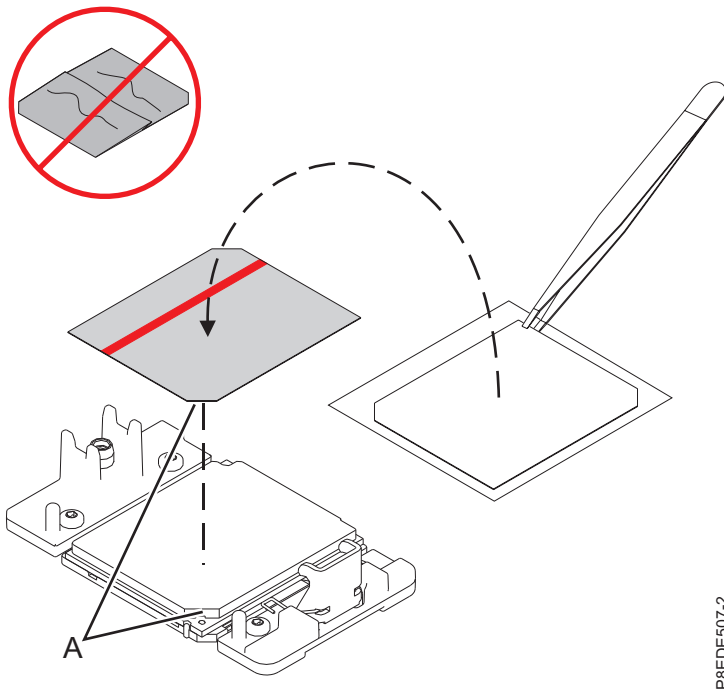

Figure 17. Installing the TIM onto the processor lid
- d. Using the tweezers, remove the TIM from the carrier strip and center it onto the system processor module with the black side facing up. If the replacement TIM has a red stripe, the side with the red stripe must be facing up. Align the beveled edges of the TIM and the system processor module (A), as shown in Figure 17 on page 18.